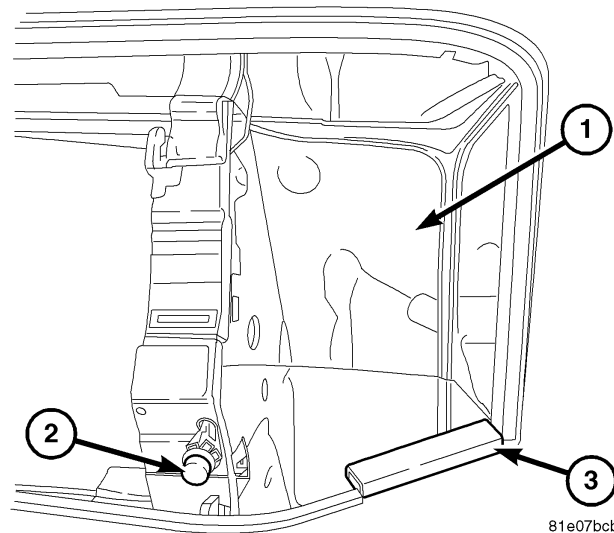

Fig. 1 LIFTGATE HANDLE
4. Cut 2 pieces of foam tape (p/n 05019056AA), 10mm (.39in.) wide x 35mm (1.37in.) long and install at both lower corners with 1mm (.04in.) protrusion from edge as shown in (Fig. 1).